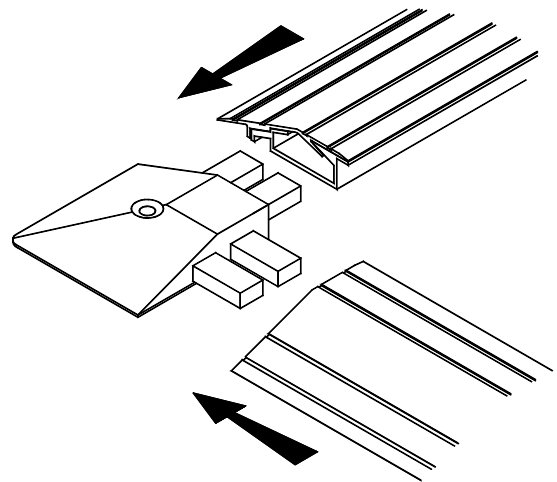

Figure 15 - AE-13 & AE-C Installation
Step 4 - Position the base sections around the mat and fit AE-C corner pieces as shown in figure 15. Drill pilot holes through each corner piece and holes in the base sections if applicable. Remove base sections / corner pieces and drill and plug the floor. Refit base sections and corner pieces and secure in position with the screws provided, ensuring the cable exits neatly through the slot(s) in the base section.